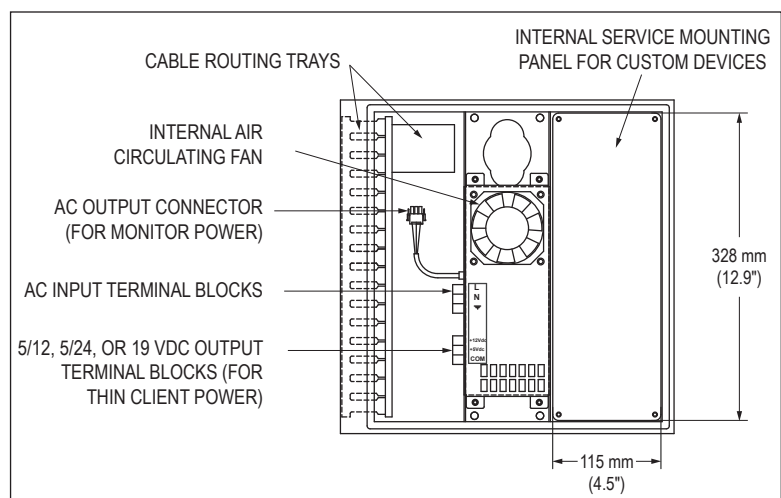

FIGURE 2 – INSIDE VIEW OF ENCLOSURE
2. Refer to Figure 2. Remove caps on Cable Routing Trays.
3. Refer to Figure 2. With power disconnected, hook up incoming power from mains supply to the AC input terminal blocks ("L" is black; "N" is white). Securely tighten terminal block screws.
5. Refer to Figure 2. Hook up AC power to the monitor using an HIS CCAC- __ cable (not included). Disconnect and discard the end of the cable with the NA plug. Plug the C-13 connector end of the cable into the power input port on the rear of the monitor. Route the cable in through the hole in the pedestal to the Thin Client / PC enclosure. Connect the Molex connector end of the cable to the AC output connector. Route cables through Cable Routing Trays.
- a. For Thin Clients or PCs with a power requirement other than what is provided, or it is undesirable to cut the DC power cable, use the device manufacturer's brick power supply. Install the brick power supply to the internal service panel (shown in Figure 2) and connect the AC power side to the AC power input terminal block using HIS part number MK-1OUTLET-xx. After completing the installation, continue to step 12.
11. Refer to Figure 2. Hook the DC cable wires to the terminal block in the correct polarity [i.e. ground to COM (–)]. Connect the other wire to the appropriate 5, 12, 19, or 24 VDC terminal.